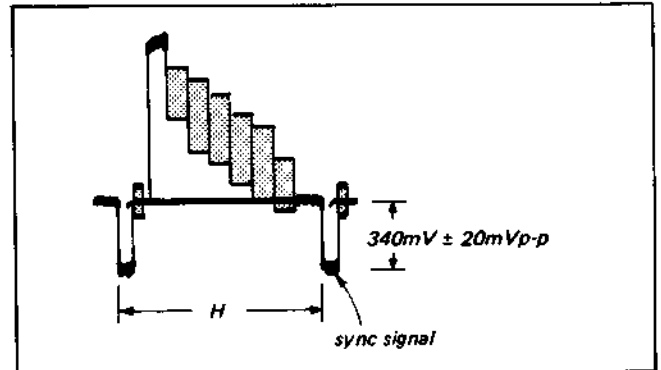

Fig. 4-13.
- (3) Adjust RV9 so that the colour bar signal is maximum.
- (4) Adjust RV1 so that the sync signal level is  $340 \text{ mV} \pm 20 \text{ mVp-p}$ . (See Fig. 4-13).